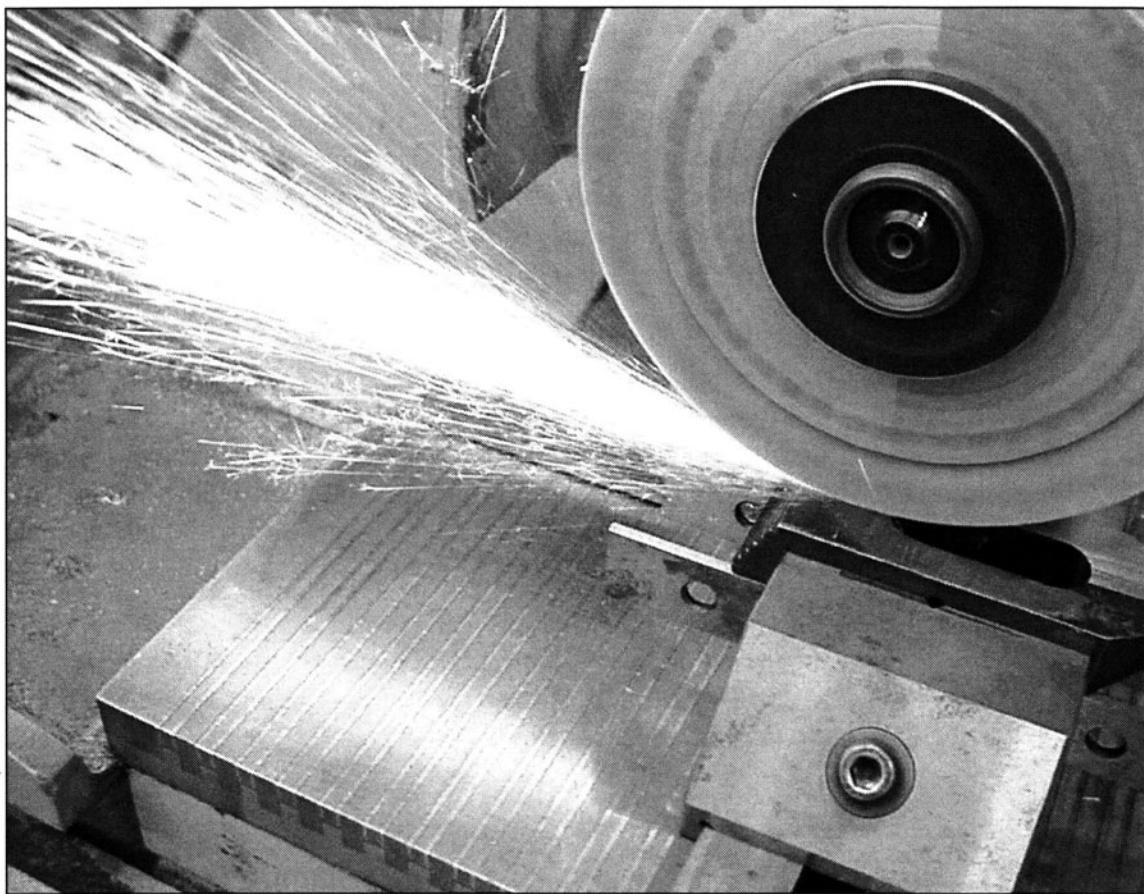

FIGURE 14-3 Heavy cuts can be made with a surface grinder if material is fed in a little at a time.
7. *Rough off stock in a surface grinder by taking deep, narrow cuts. (See Fig. 14-3)*